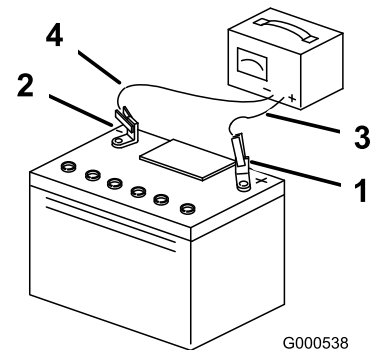

Figure 81
- When the battery is fully charged, unplug the charger from the electrical outlet, and disconnect the charger leads from the battery posts (Figure 81).